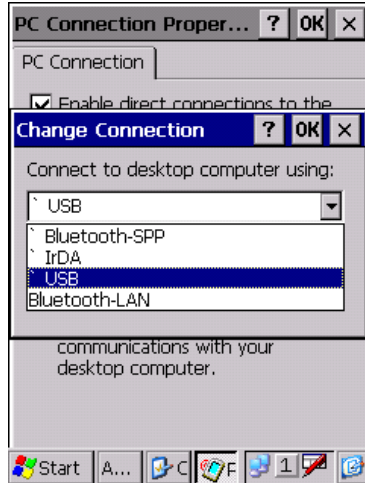

Figure 5.18
2. Set PC Connection to **USB**. If it is not USB, tap **Change Connection...** button and choose **USB** in the pull-down menu box in the window in Figure 5.18. Tap **OK** button twice.